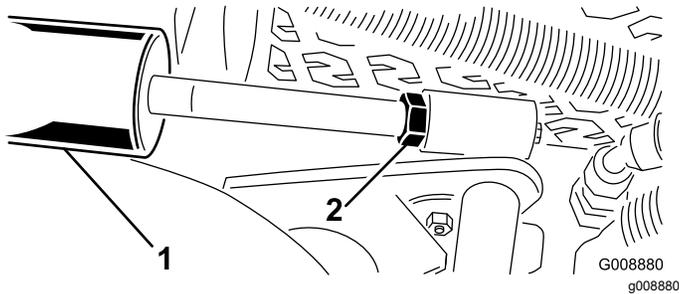

Figure 31
- Loosen the jam nut of the lift cylinder (Figure 31).